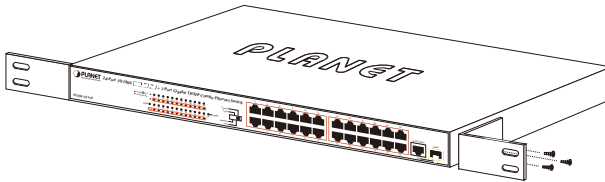

Figure 3-1: Attaching the Brackets to the FGSW-2511P.
Step 2: Attach a rack-mount bracket to each side of the FGSW-2511P with supplied screws attached to the package. Figure 3-1 shows how to attach brackets to one side of the FGSW-2511P.